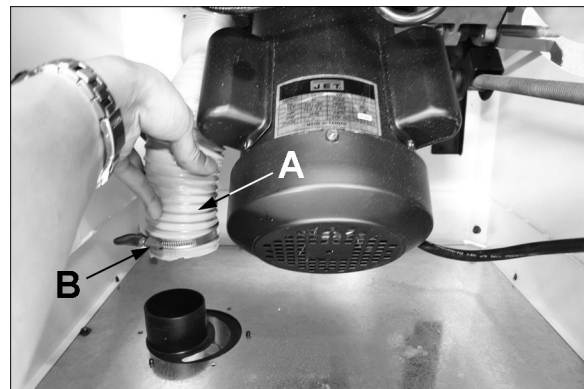

Figure 6-3b
1. Mount legs (K) to cabinet using two M8 screws with washers (HP8/13) into each leg as shown. Install both screws first, then tighten with 5mm hex wrench. (Note: If more clearance is needed to insert a screw, see sect. 6.6 to temporarily mount a handwheel and tilt the trunnion out of the way.)
3. Mount bottom plate (M) to cabinet using eight M5x12 tapping screws (HP16).
5. Attach hose (A, Figure 6-3b) to dust chute.
6. Tighten clamp (B) to secure hose.